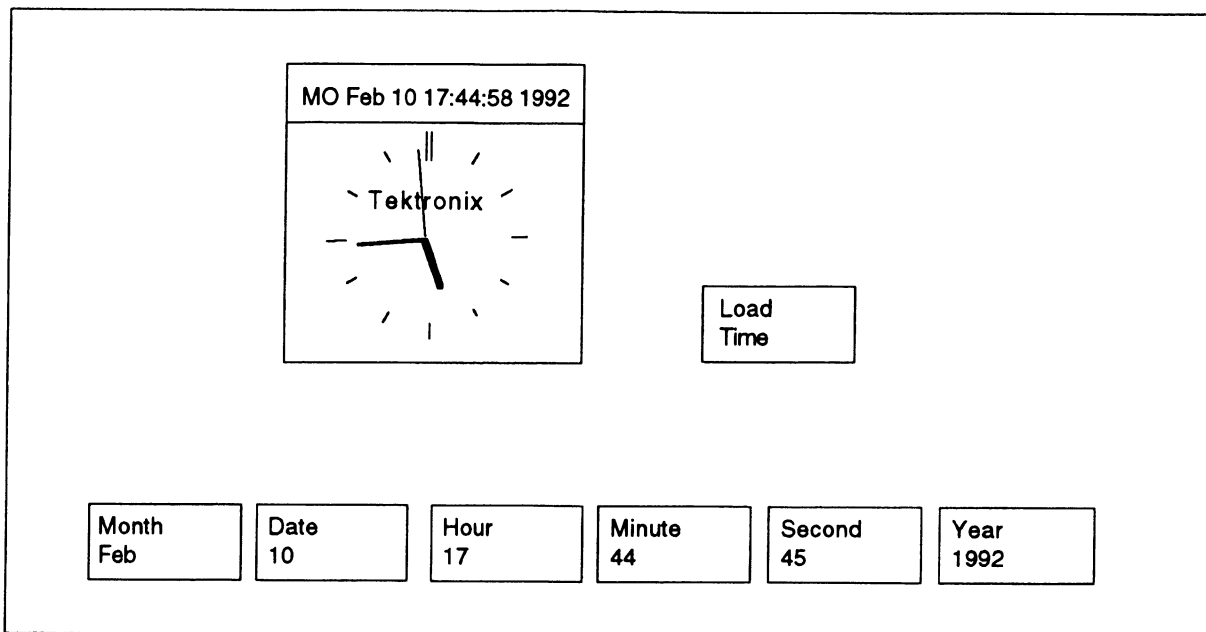

Figure 3-3. Time Configure menu.
- Select (touch) the **Time** softkey to display the VM700A calendar and clock (Figure 3-3). The clock continues to run, but the numbers in the softkeys do not advance with the time and display the time that was present when the Time Configure menu was selected.